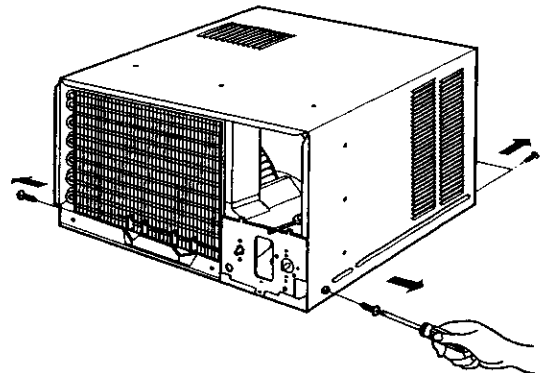

Figure 22
3. Pull the base pan forward. (See Figure 22)